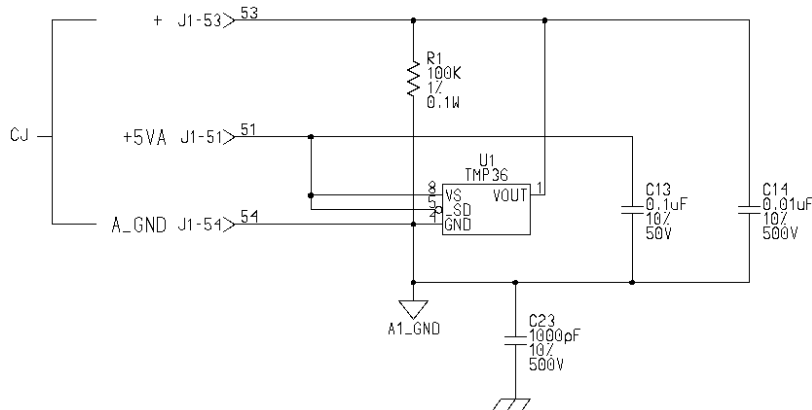

Figure 13-4—34Ch HDVIM FTM Cold Junction Sensor Schematic
3. Locate and replace the fuse with another fuse of the same size, type, and rating, See Figure 13-4 for channel fuse location.